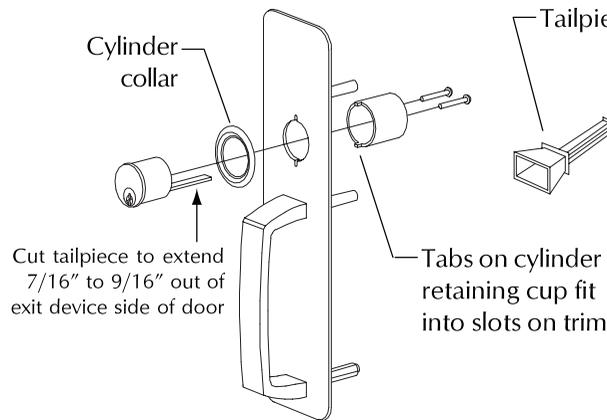

Figure 1
3. For NL trim only, install rim cylinder (Figure 1) and install tailpiece guide in exit device cam (Figure 2).